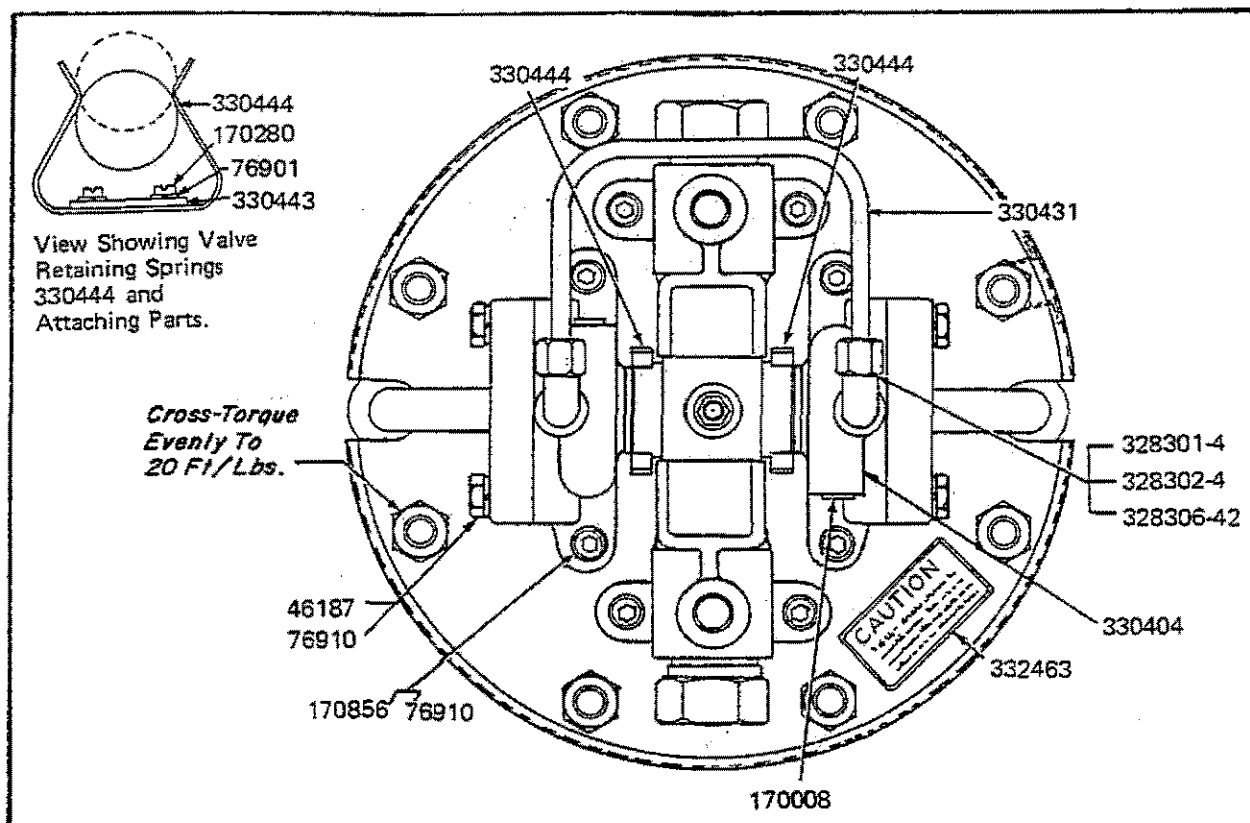

FIGURE 4 Air Motor Assembly G-330400 -4 (Top, Cover removed)
4. Unscrew two compression nuts 328301-4 and remove crossover tube 330431 with sleeves 328302-4 (Figure 4).
9. Unscrew two screws 170280 and remove lockwashers 76901, clamp 330443, and valve spring 330444 (Figure 4).
11. Remove four remaining socket head cap screws 170856 and lockwashers 76910 and lift valve bodies 330404 free. Remove "O" rings 171009-1 from cylinder head (Figures 4 & 5).